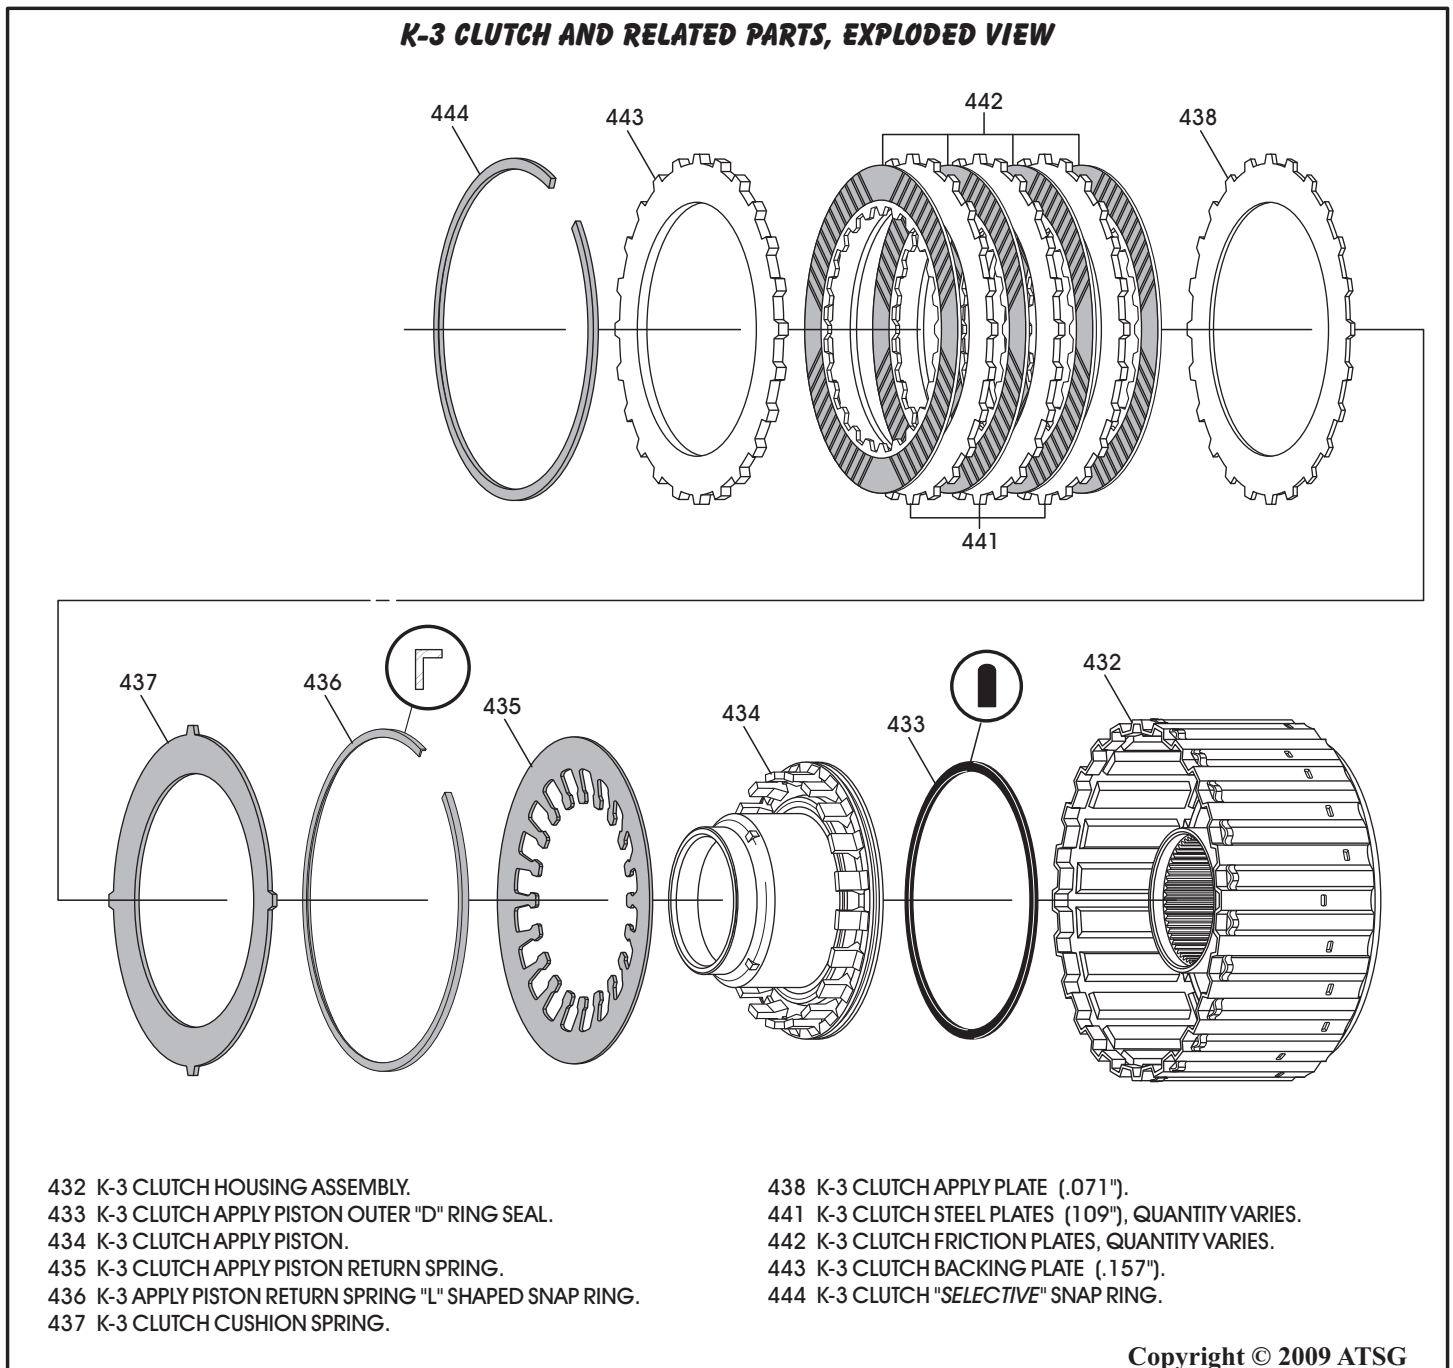

Figure 132
17. Disassemble the K-3 clutch housing assembly, using Figure 132 as a guide.